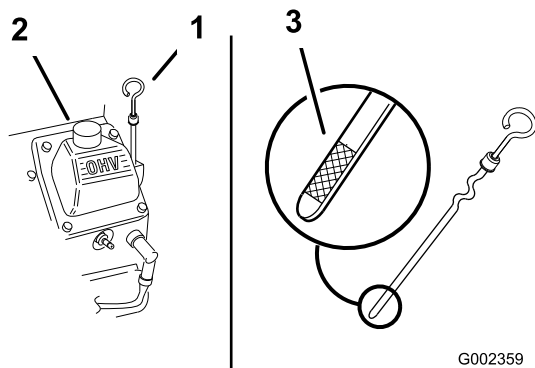

Figure 38
3. Grease the fittings on the 3 spindle bearings (Fig. 38).
4. Grease the idler pulley pivot (Fig. 38).
4. Clean around the oil dipstick (Figure 38) so that dirt cannot fall into the filler hole and damage the engine.
5. Unscrew the oil dipstick and wipe the end clean (Figure 38).
6. Slide the oil dipstick fully into the filler tube, but do not thread onto tube (Figure 38).
7. Slowly pour approximately 80% of the specified oil into the filler tube (Figure 38).